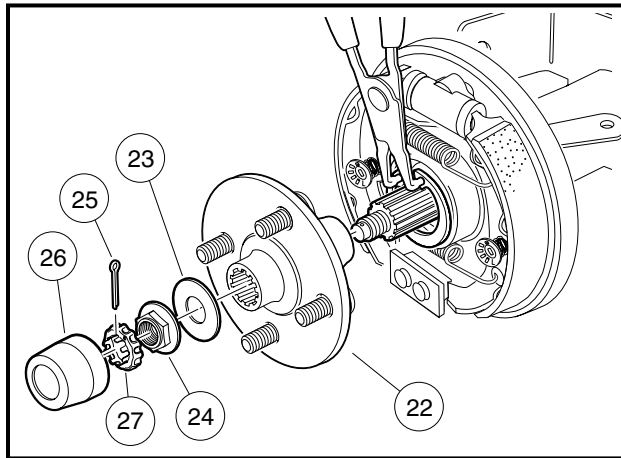

Figure 16-5 Axle Retaining Ring Pliers
5. To remove the wheel bolt flange on the MC012C transaxle (**Figure 16-5, Page 16-4**):
6. Use a 90° internal snap ring pliers (.090-inch tip) to remove internal retaining ring from axle tube (**Figure 16-5, Page 16-4**).
5. Install the wheel bolt flange (22) on the MC012C transaxle (**Figure 16-5, Page 16-4**). **See following NOTE.**